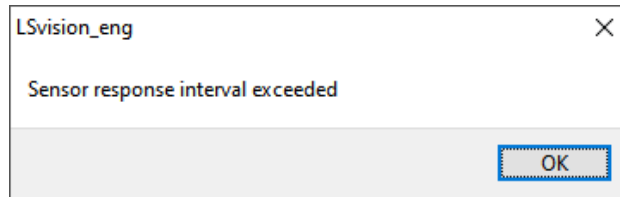

Figure 10.1 – The message about sensor response interval exceeded
When using elements of the LSvision soft that initiate sending a request to the sensor and a response wait, the message shown in fig. 10.1 is possible.
- 3) the message shown in the fig. 10.1 may appear;